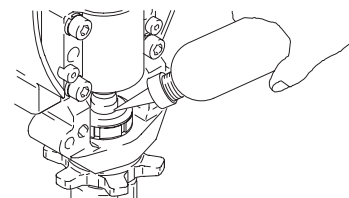

Fig. 21
4. Fig. 21. Fill packing nut with Graco TSL, through one of the slits, until fluid flows onto the top of seal.